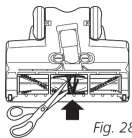

Fig. 28
- 3 Remove any string, carpet fibers or hair that may be wrapped around the brushroll. (Fig. 28)